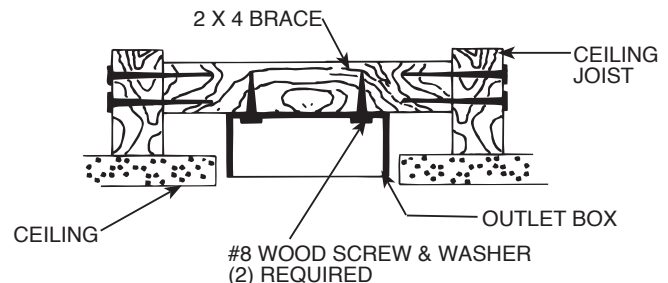

FIGURE 2. Outlet Box
A. Secure metallic outlet box 4" x 1-1/2" or 4" x 1/2" deep to 2 x 4 cross brace between two ceiling joists as shown in Figure 2. The outlet box must be recessed into the ceiling by 1/16" minimum. Secure the outlet box to the cross brace by drilling (2) pilot holes no larger than the minor diameter of the wood screws (5/64") and use two #8 x 1-1/2" wood screws and washers. Use the innermost holes for securing the box. Orient the box so the outermost holes will be used in Step 4B.